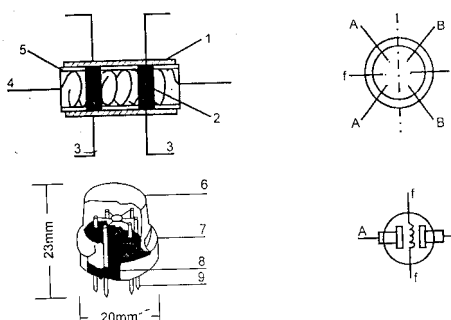

Fig3 Fig4
5. HS-135 structure and circuit symbols(Fig 3).